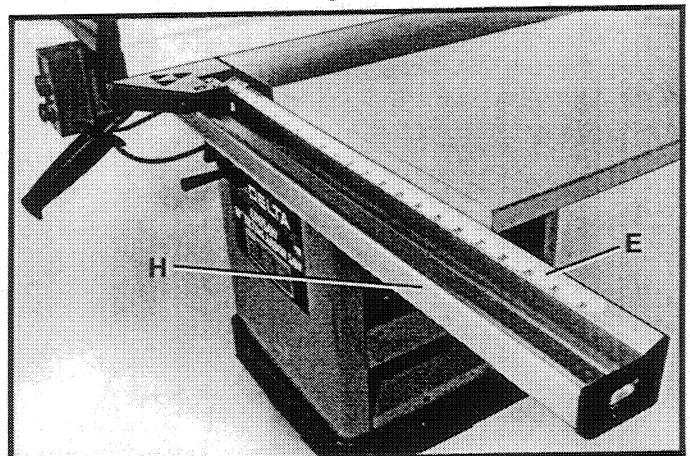

Fig. 33
3. **IMPORTANT: Make certain the scale is positioned straight on the guide rail.** Continue to assemble scale (E) Fig. 33, along the entire length of guide rail (H). Lower the saw blade.